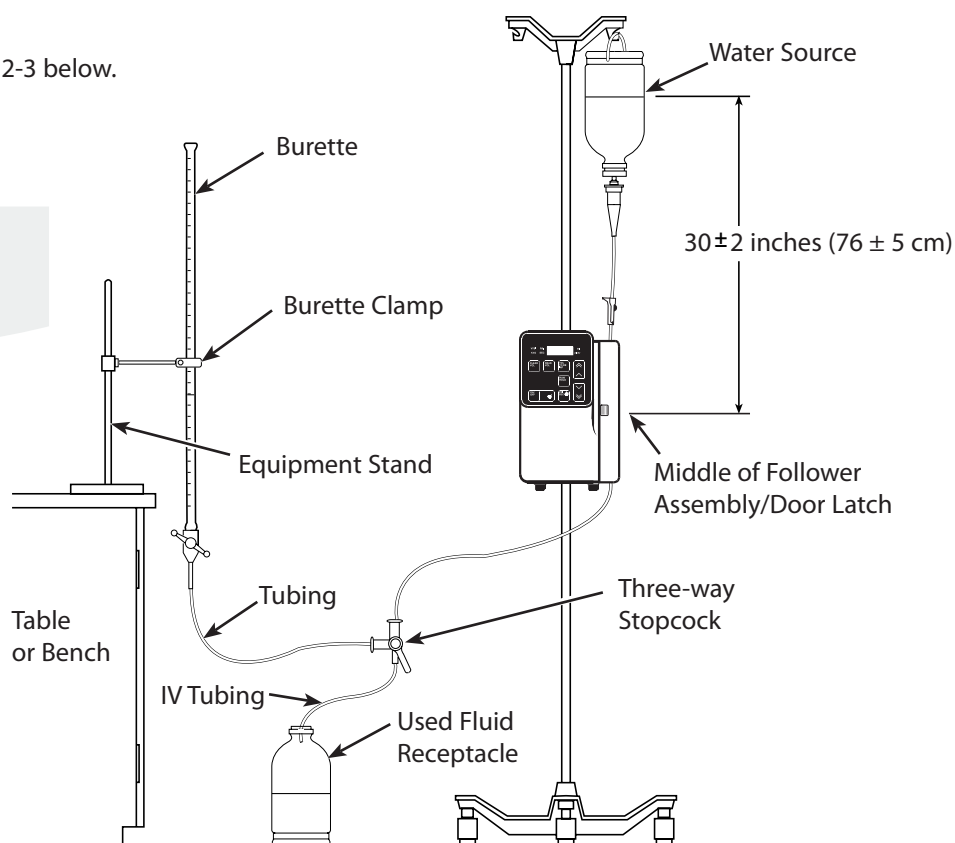

Figure 2-3 Rate Accuracy Verification Test Equipment Set Up
- Set up the pump as shown in Figure 2-3 below.